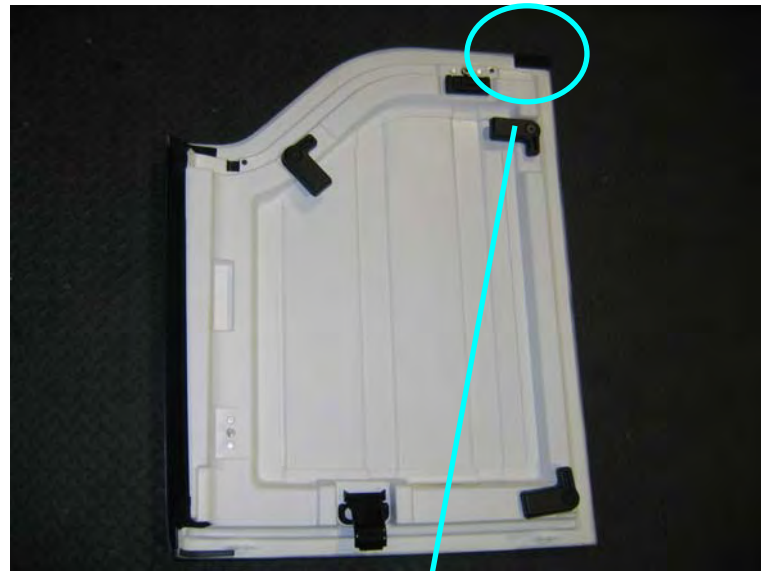

Figure 28
- Add 30 X 75 mm Black Foam from Kit (68026937AB) to cover butyl (Figure 28)